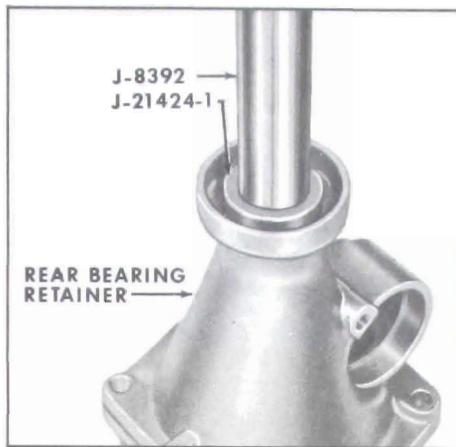

Figure 5-334
1. Using Drive Handle J-8392 and Installer J-21424-1 install rear bearing reatiner bushing. See Figure 5-334.